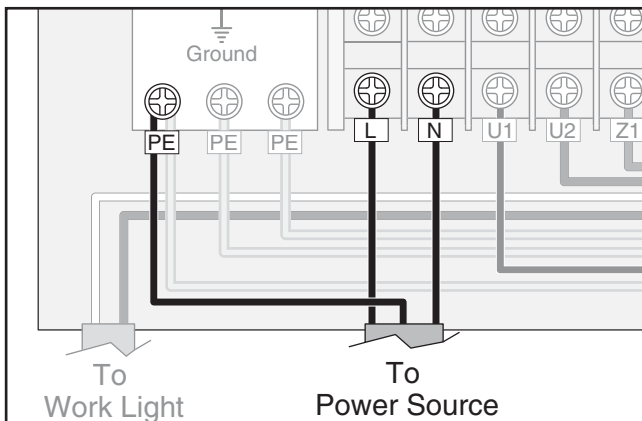

Figure 10. Locations of power cord connections inside the electrical cabinet.
2. Open the electrical cabinet and identify the **L** and **N** terminals, and the grounding plate (**PE**) at the bottom left of the cabinet (see **Figure 10**).